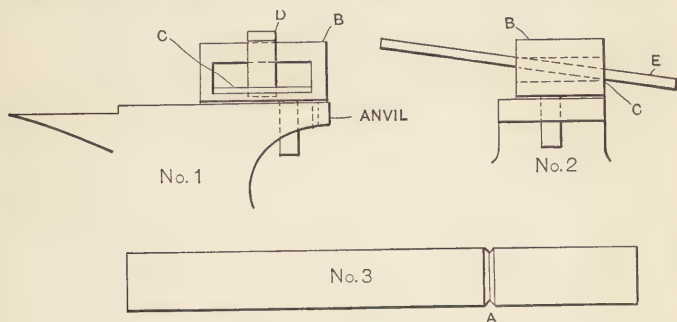

Fig. 1. Cutting off Steel.
**Cutting Off High-Speed Steel.**—High-speed and self-hardening steels should be heated to a cherry red if not annealed and nicked around as at *A* in No. 3, Fig. 1, and broken while hot. If the bars are not too large the smith can nick them on the hardy and by using a tool such as *B*, Fig. 1, can easily break the pieces off. The bar to be broken should be so placed in the tool that the nicked part will rest on edge *C*,
By the use of the tool shown in Fig. 1, pieces can be broken off from small bars as rapidly as the smith can handle the bar. In shops where these pieces are used in tool holders it is a good plan to take a bar, or even two or three bars of annealed high-speed steel, mark off the desired lengths, nick around as stated, and break. The smith can not only do a faster job, but a better job of hardening where there are a hundred or so pieces of steel to harden than where he is bothered with one piece at a time at half-hour intervals.